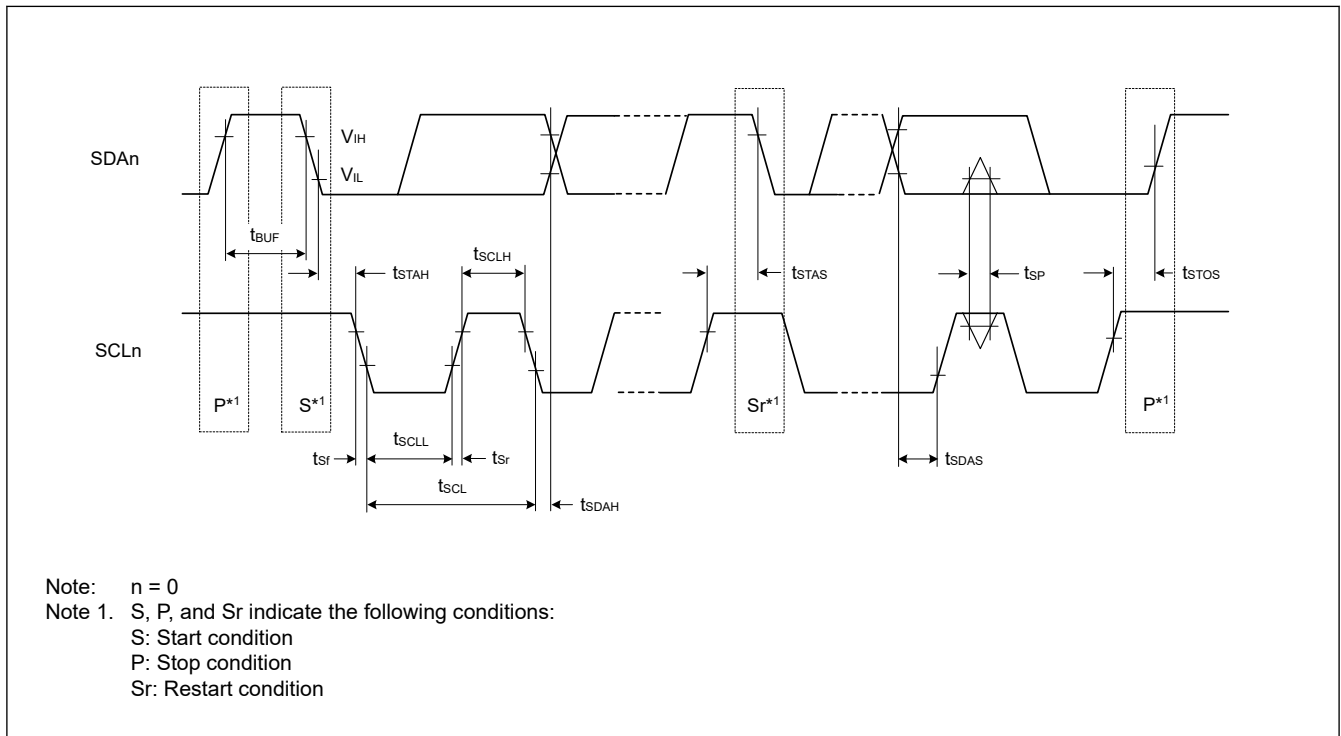

Figure 2.35 I²C bus interface input/output timing
| IIC (standard mode, SMBus) | SCL input cycle time                                               | t SCL  | 6 (12) × t IICcyc + 1300                       | —                           | ns   | Figure 2.35     |
| IIC (Fast mode)            | SCL input cycle time                                               | t SCL  | 6 (12) × t IICcyc + 600                        | —                           | ns   | Figure 2.35     |